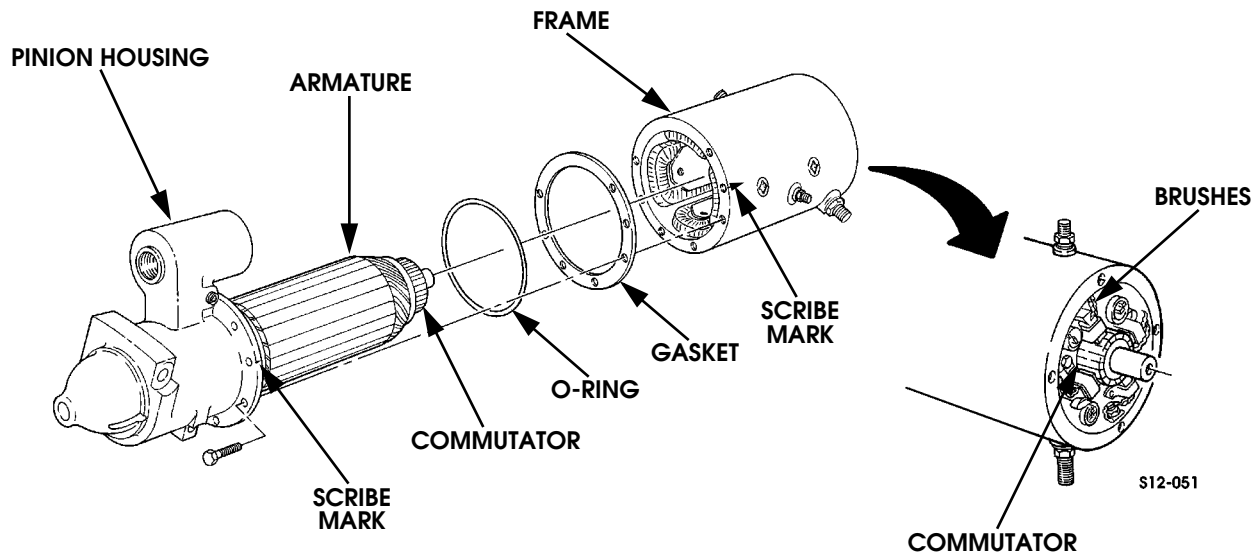

Figure 12-29: Assembling Frame, Armature, and Pinion Housing
16. Install O-ring and gasket in pinion housing (Figure 12-29).